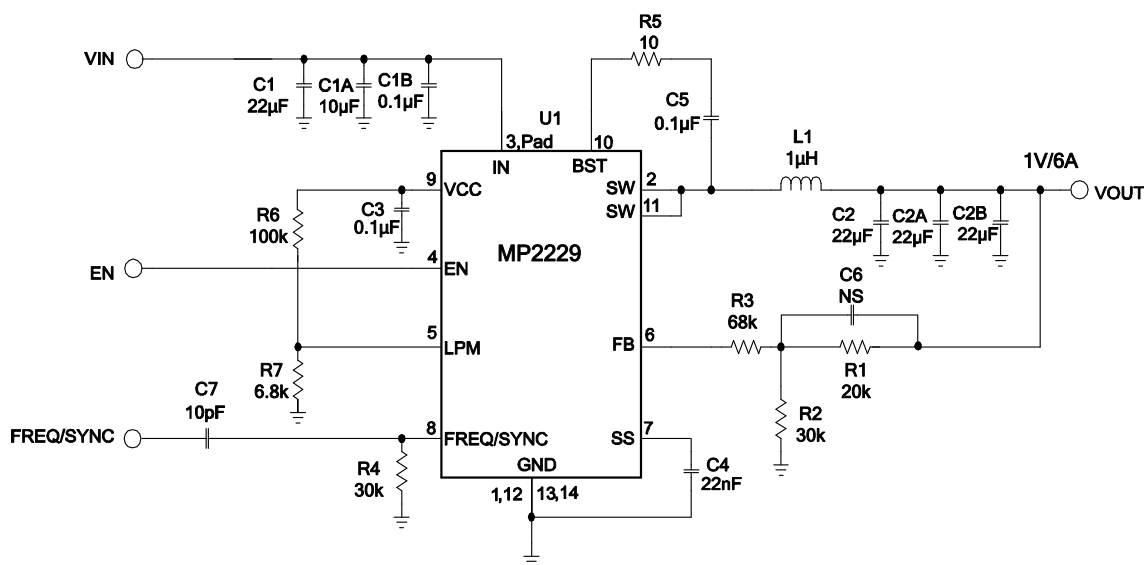

FIGURE 11. $V_{IN}=12V$, $F_S=500kHz$, $V_{OUT}=1V$, $I_{OUT}=6A$
- 10) The recommended layout is based on the Figure 11 “Typical Application Circuit” on Page19.
The detailed application schematics are shown in Figure 11. The typical performance and circuit waveforms have been shown in the “Typical Performance Characteristics” section. For additional device applications, please refer to the related evaluation board datasheets.